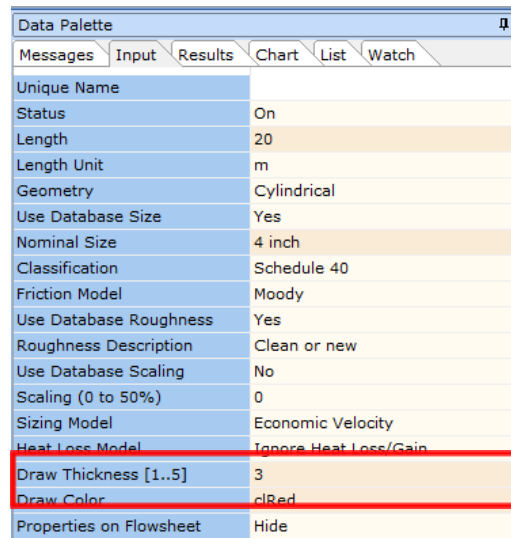

Figure 32: Modified Draw Thickness and Draw Color.
38. Note that we can improve the presentation of our model by selecting the pipe and changing the *Draw Thickness* and *Draw Color* from the Input Inspector. We have to set the *Draw Thickness* to **3** and *Draw Color* to **cRed** (Figure 32).